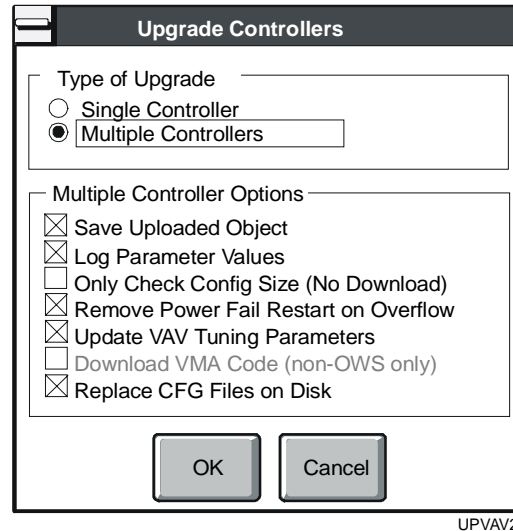

Figure 16-7: Upgrade Multiple Controllers Dialog Box
2. Select Multiple Controllers as shown in Figure 16-7.